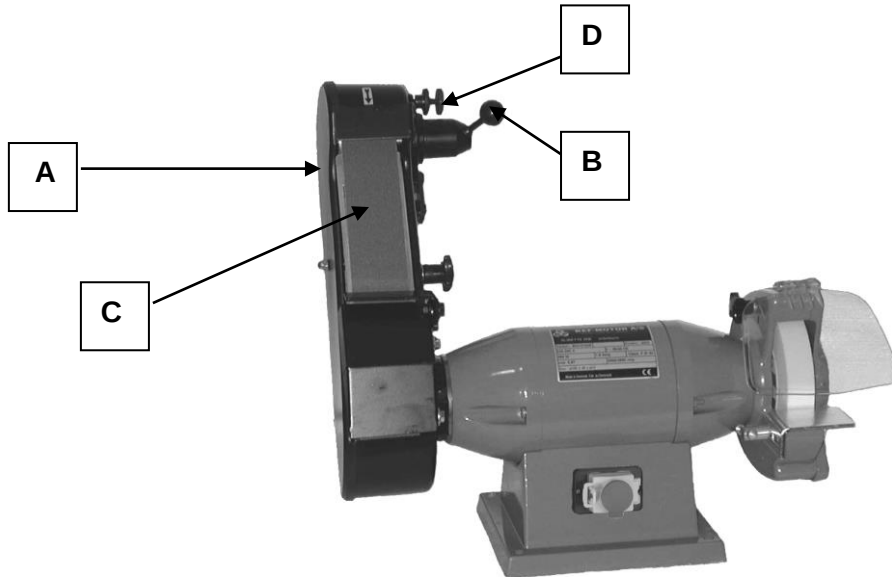

Fig.: 2.3.2
When the grinding belt has worn down it must be replaced, which is done in the following way: Remove the outer shield (A) (see fig. 2.3.2) of the casing and pull the handle (B) down. This releases the grinding belt (C), so it can be removed and replaced by a new one, which should be fitted in reverse order. Check that the direction of the arrows on the rear of the belt corresponds to the direction of rotation. Once the new grinding belt has been fitted, it is necessary to ensure a straight running action by adjusting the handle (D), which should be loosened until the grinding belt runs straight on the contact wheel. Then tighten the handle (B).